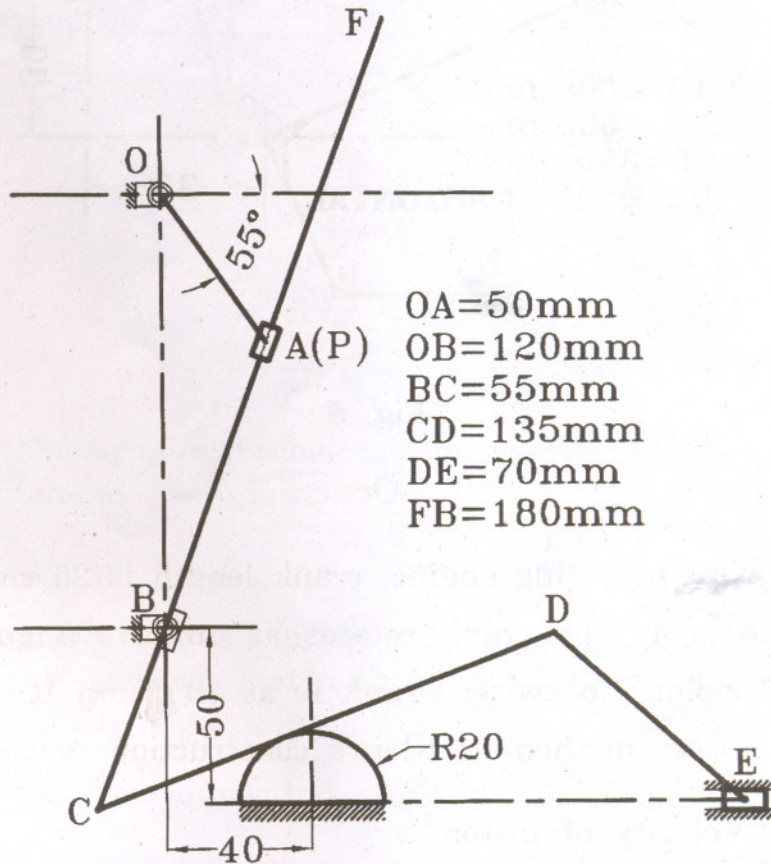

Fig. 4
- (b) Fig. 4 shows a mechanism in which crank OA is rotating anticlockwise at 20 rad/s. Link CD is in the form of a rod sliding tangentially on an inverted and grounded semi-cylinder as shown.